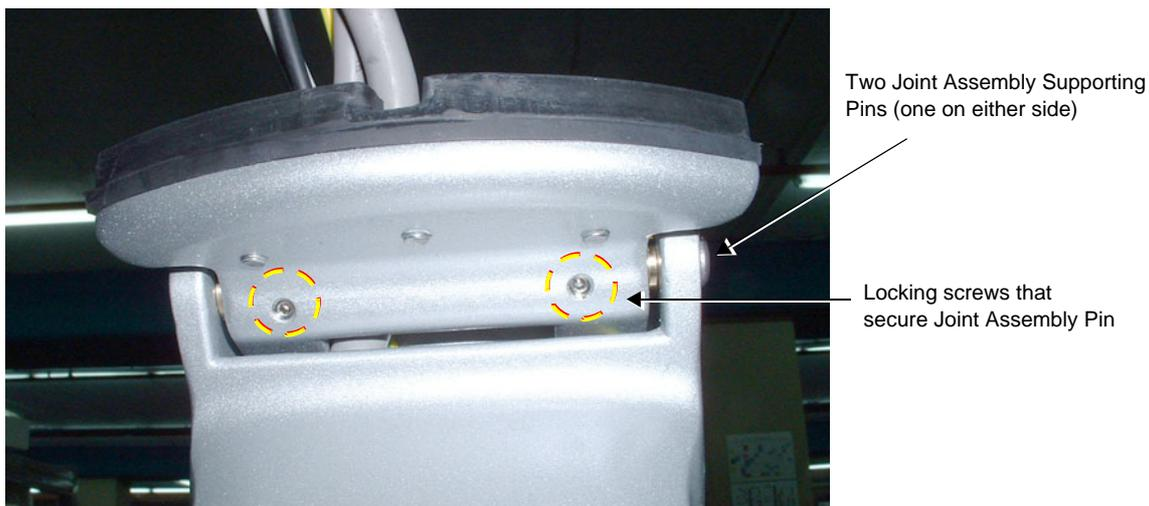

Figure 8-250 Locking Screws Securing the Joint Assembly Supporting Pins
8.) Release the two locking screws that secure the two Joint Assembly supporting pins - Figure 8-250.